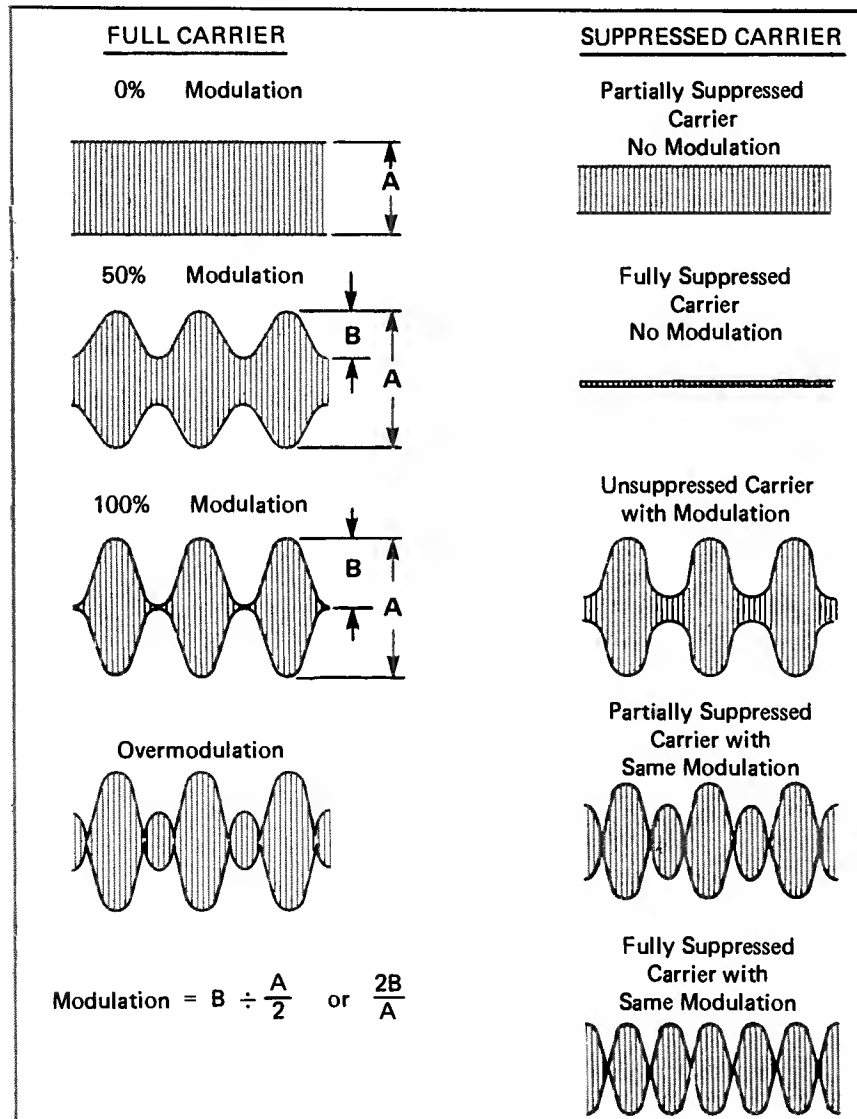

Fig. 9. AM modulation and suppressed carrier waveforms.
4. Adjust percentage of modulation with the MOD LEVEL control. Fig. 9 shows how to measure percentage of modulation with an oscilloscope.
5. Set the CARRIER LEVEL control fully ccw for AM operation. Turning the CARRIER LEVEL control clockwise reduces the carrier level, but not the double sidebands. Full suppression of the carrier produces a double sideband (DSB) signal. Fig. 9 illustrates the suppressed carrier waveforms.
5. As the CARRIER LEVEL control is rotated from fully clockwise to fully counterclockwise, carrier level reduces from maximum to minimum, then increases with opposite polarity. Minimum carrier level is obtained at the null near the center of the CARRIER LEVEL adjustment range. This is easily seen with no modulation applied as shown in Fig. 9.
6. With a given modulating signal applied, the percentage of modulation increases as the carrier level is reduced. Significant reduction in the carrier level will produce over-modulation. Minimum carrier level is obtained when the overmodulation envelopes are of equal amplitude as shown in Fig. 9.